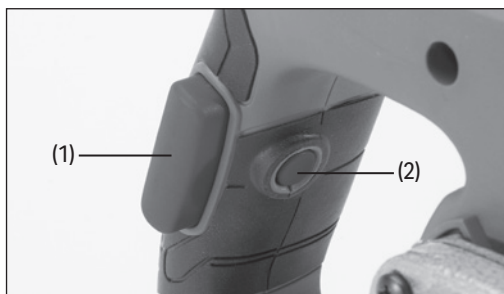

Fig. 2
7.1 ON/OFF Trigger and Lock Off Button (Fig.2 – Fig.3)
- To start the mixer, press the lock off button (2) first, then press the **ON/OFF** trigger (1).
- To switch off, release the **ON/OFF** trigger (1).